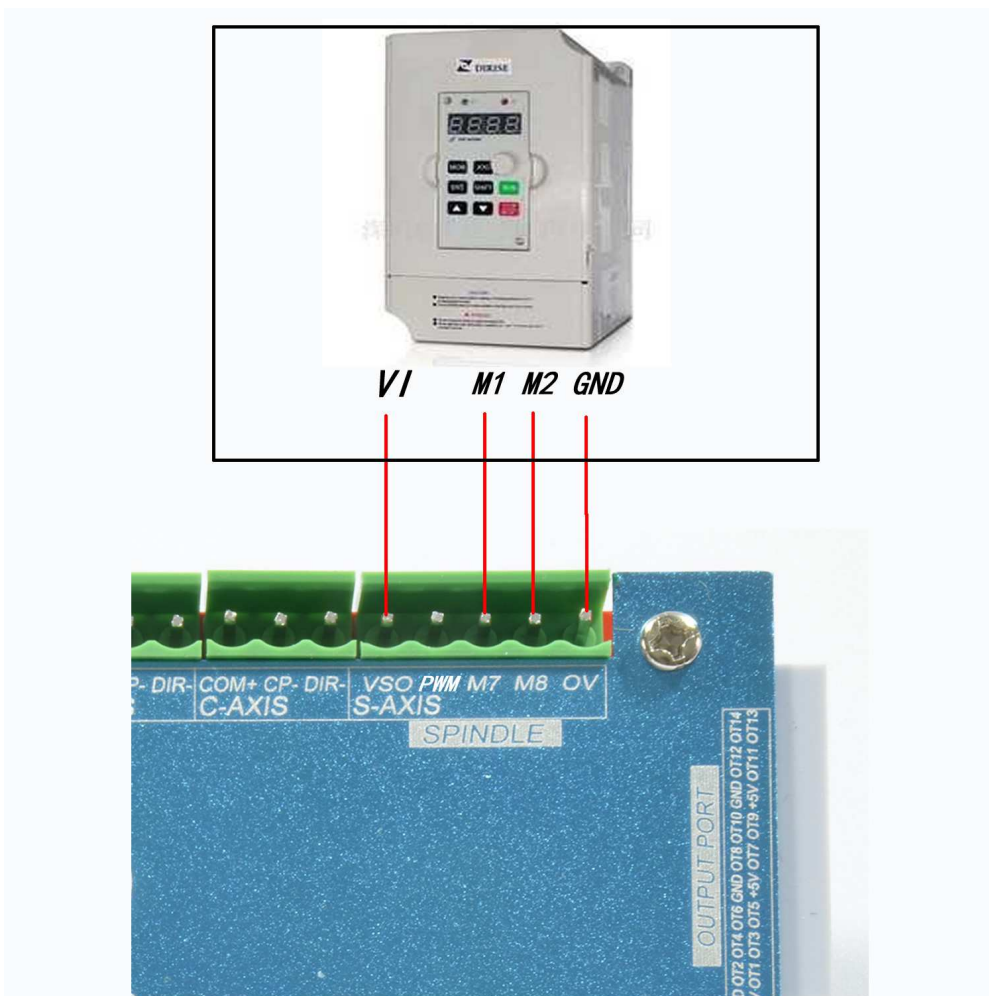

Figure2-3. Spindle connect method
C) Spindle control port. This port does not need referenced voltage. It supply speed control voltage to Frequency Converter. Define as VSO, PWM, M7, M8 and 0V from left to right. They are Spindle Speed control voltage output 0-10V, Spindle Speed control PWM output, general output M7 and general output M8, GND. The connection method of this port to Frequency Converter see as Figure 2-3. VSO to VI as speed control port, M7/M8 to M1/M2, which can be set as START/STOP or other function. Attention: M7/M8 are PORT2's PIN15 and PIN16 in mach3.